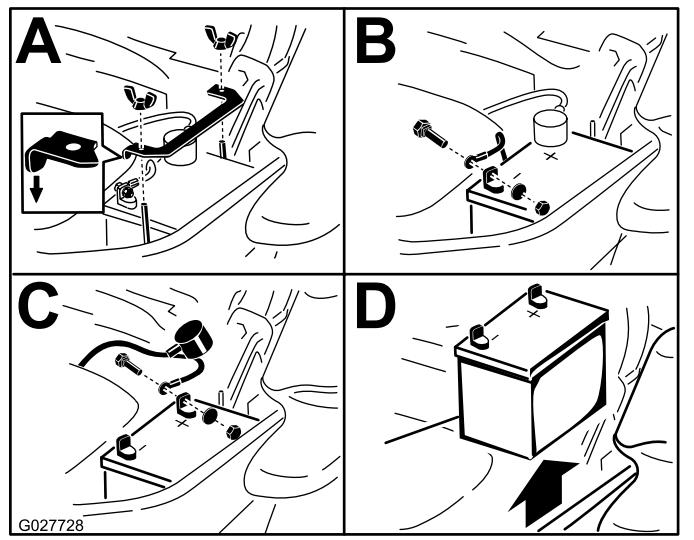

Figure 66
3. Remove the battery as shown in Figure 66.